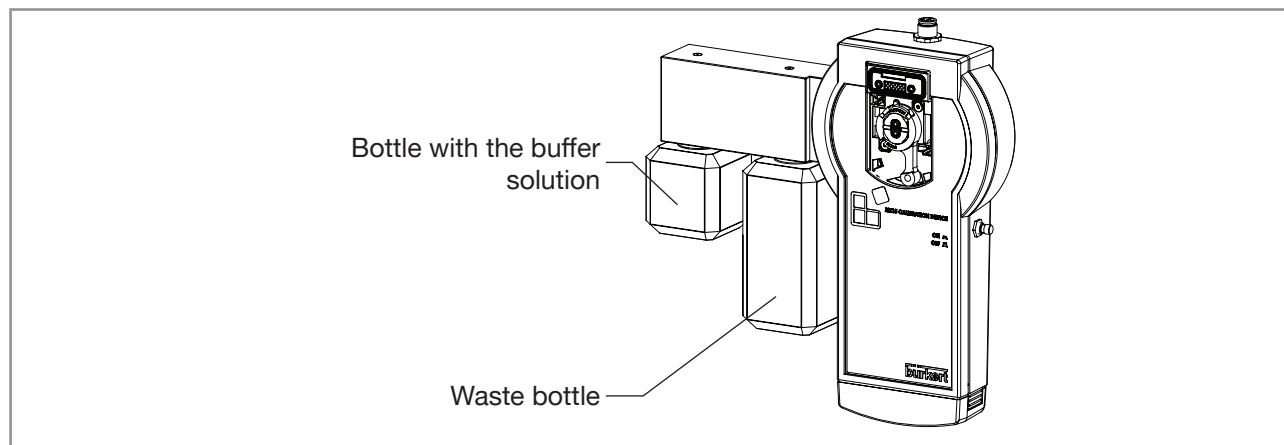

Fig. 11: Handheld calibration-and-cleaning tool: position of the bottle with the buffer solution and position of the waste bottle
→ Screw the bottle with the first buffer solution as shown in Fig. 11. Refer to the Operating Instructions of the Type MZ15.
- Screw the bottle with the second buffer solution as shown in Fig. 11.